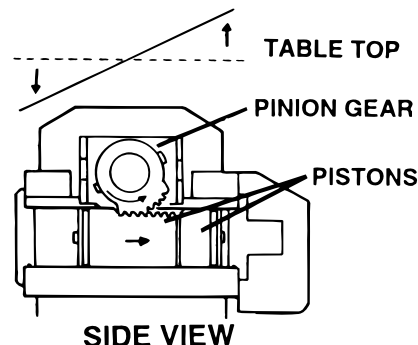

Figure 1-11. Trendelenburg Cylinder Assy.
2. Trendelenburg Cylinder Assembly - This cylinder / piston arrangement has rack teeth cut into the top of each piston. These teeth mesh with a pinon gear that is connected directly to the table side frames. The pinon gear shaft and table side frames are supported by bearings at either side. When hydraulic fluid is pumped into one side of the cylinder, the pistons are pushed in one direction, moving the pinon gear and table side frames with them. Oil pressure can be applied to either side of the piston, making the table tilt end for end. See figure 1-11.